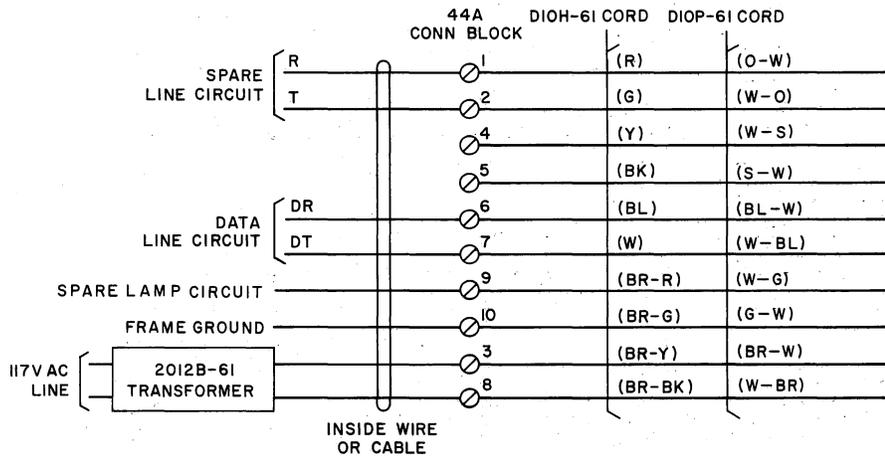

Fig. 1—Data Set 601-Type Connections
3.01 Connect the data set as shown in Fig. 1.
3.02 Mounting cord D10P-61 (Fig. 1) is used with Data Sets 601A1, 601B1, 601A2, and 601B2.
Mounting cord D10H-61 (Fig. 1) is used with Data Sets 601A and 601B which have been manufacture discontinued.